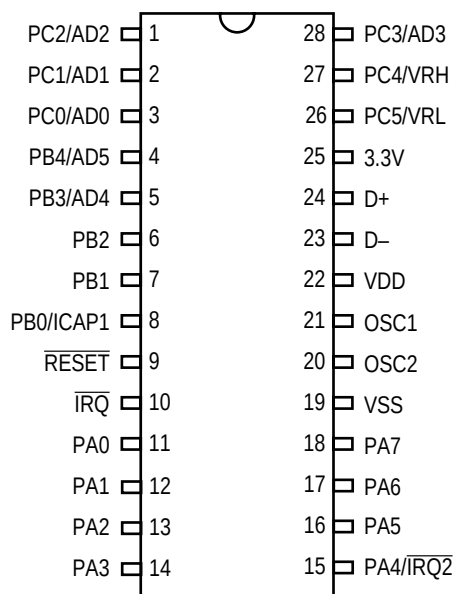
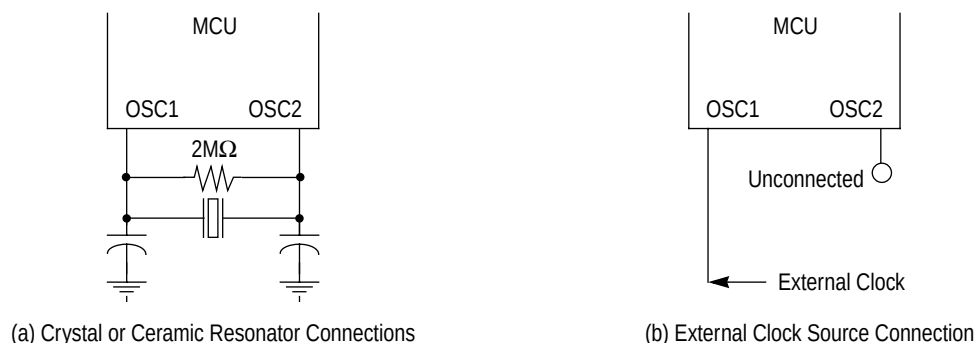

Figure 1-2. MC68HC05JB4 Pin Assignment
Figure 1-3. Oscillator Connections
The following paragraphs give a description of the general function of each pin assigned in Fig. 1-2 and Fig. 1-3.
1. A crystal as shown in **Figure 1-3(a)**
2. A ceramic resonator as shown in **Figure 1-3(a)**
3. An external clock signal as shown in **Figure 1-3(b)**
The circuit in **Figure 1-3(a)** shows a typical oscillator circuit for an AT-cut, parallel resonant crystal. The crystal manufacturer's recommendations should be followed, as the crystal parameters determine the external component values required to provide maximum stability and reliable start-up. The load capacitance values used in the oscillator circuit design should include all stray capacitances. The crystal and components should be mounted as close as possible to the pins for start-up stabilization and to minimize output distortion. An internal start-up resistor of approximately $2\text{M}\Omega$ is provided between OSC1 and OSC2 for the crystal type oscillator as a mask option.
In cost-sensitive applications, a ceramic resonator can be used in place of the crystal. The circuit in **Figure 1-3(a)** can be used for a ceramic resonator. The resonator manufacturer's recommendations should be followed, as the resonator parameters determine the external component values required for maximum stability and reliable starting. The load capacitance values used in the oscillator circuit design should include all stray capacitances. The ceramic resonator and components should be mounted as close as possible to the pins for start-up stabilization and to minimize output distortion. An internal start-up resistor of approximately $2\text{M}\Omega$ is provided between OSC1 and OSC2 for the ceramic resonator type oscillator as a mask option.
An external clock from another CMOS-compatible device can be connected to the OSC1 input, with the OSC2 input not connected, as shown in **Figure 1-3(b)**. This configuration is possible ONLY when the crystal/ceramic resonator mask option is selected.